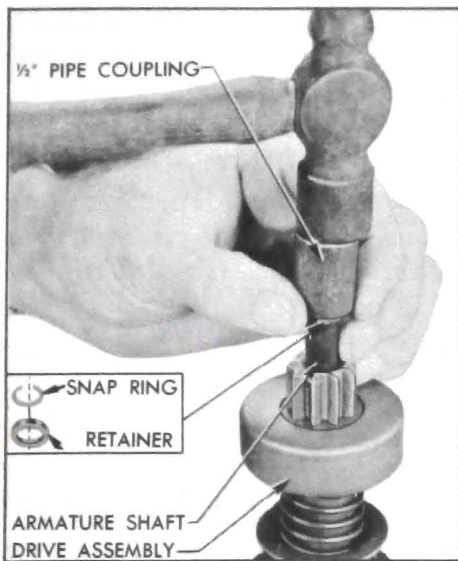

Figure 10-39—Removing Pinion Stop Retainer and Snap Ring
5. Place a metal cylinder of proper size ($\frac{1}{2}$ " pipe coupling will do) over end of armature to bear against the pinion stop retainer. Tap retainer toward armature to uncover the snap ring, remove snap ring from groove in shaft then remove retainer and drive assembly. See figure 10-39.